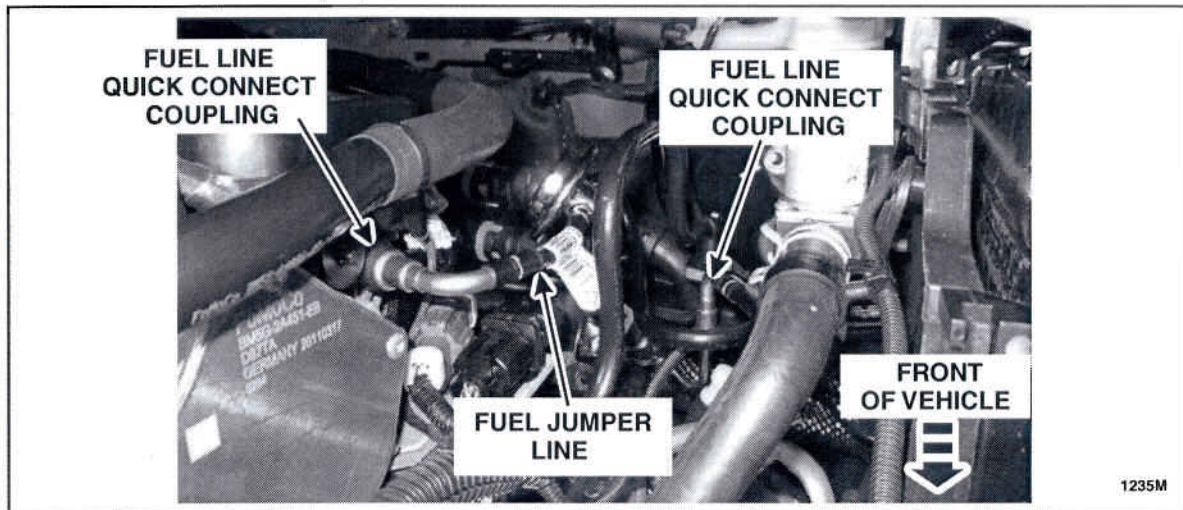

**FIGURE 4**
10. Remove the two bolts and position the master cylinder reservoir aside. See Figure 4.